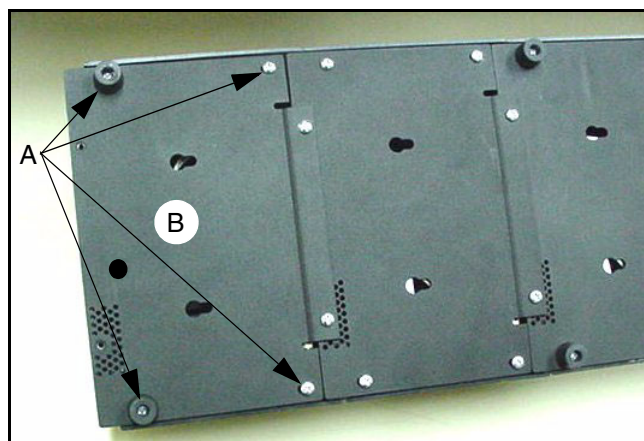

FIG. 1
3. With the power supply cord away from you, remove the four screws (A) from each corner of the bottom (last) charger. See Fig. 1.